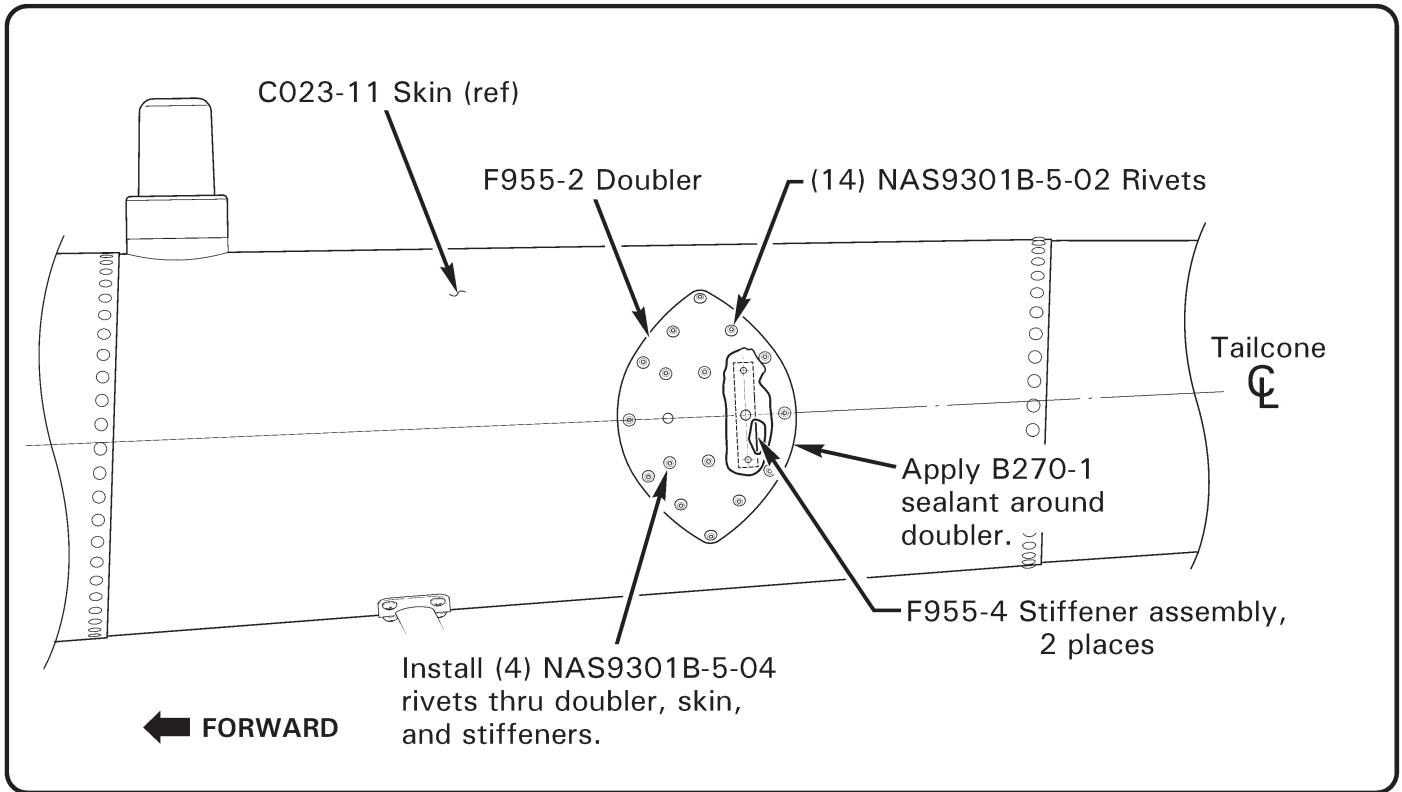
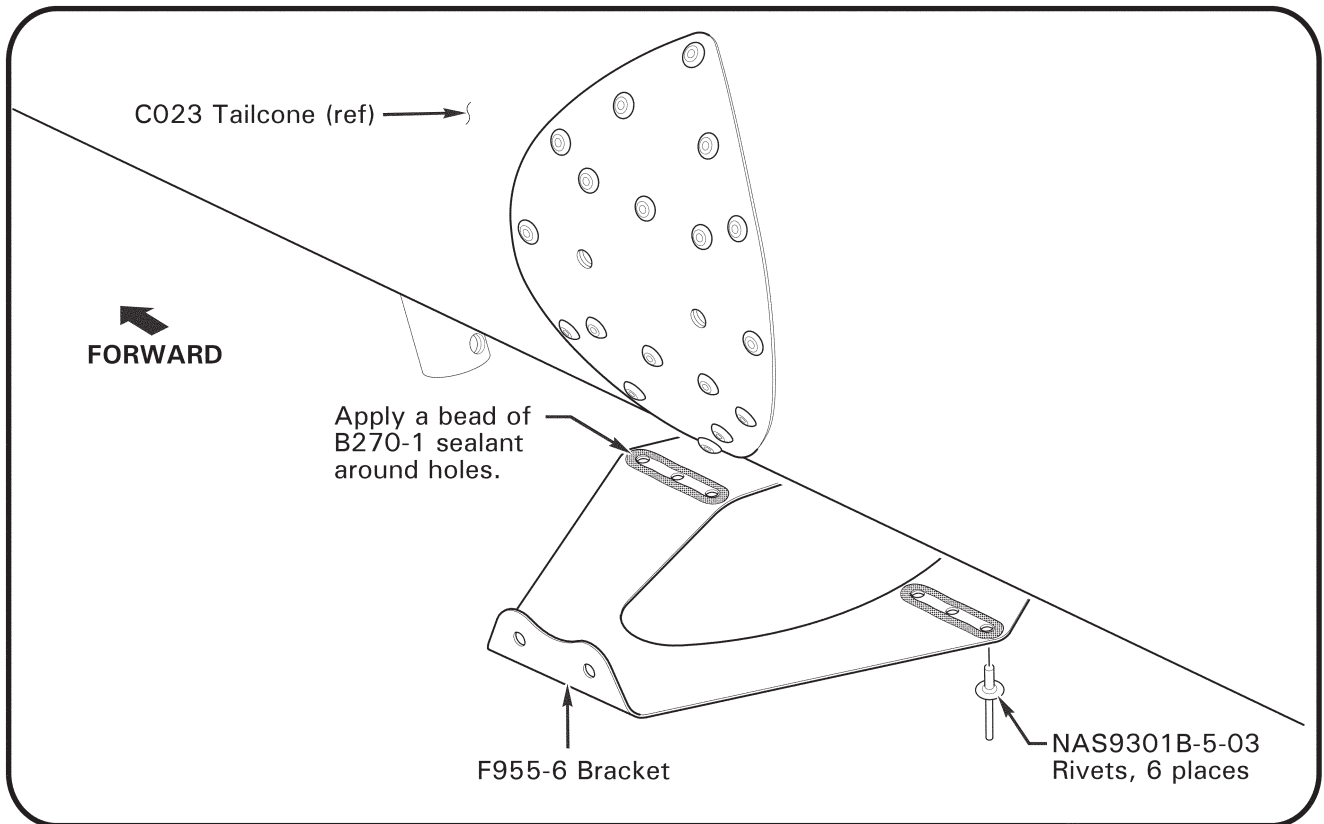

FIGURE 7 Doubler & stiffener assembly installation
FIGURE 10 F955-6 bracket installation
13. Refer to Image 4. Position doubler as marked in step 10 with safety wire threaded thru matching rivet holes of doubler. Align holes of stiffeners, tailcone, and doubler. Install clecos thru holes of doubler that align with lower holes of stiffeners. Temporarily secure doubler and stiffeners to tailcone using (2) NAS6604-3 bolts & (4) NAS1149F0432P washers ([2] washers per bolt); snug bolts hand tight. Remove safety wire. Install clecos in all remaining holes in doubler. Perform steps 12 & 13 on opposite side of tailcone.
14. Refer to Figure 7. Install stiffeners and doubler to tailcone skin using (4) NAS9301B-5-04 rivets thru stiffeners, and (14) NAS9301B-5-02 rivets thru doublers, each side of tailcone as shown, removing clecos one at a time as required. Inspect installed rivets per manufacturers' specifications at: CA-1015.pdf \(cherryaerospace.com\). Remove bolts & washers.
17. Refer to Figures 7 & 10. Apply B270-1 sealant around F955-2 doublers as shown in Figure 7. Apply a small bead of B270-1 sealant around the three rivet holes in F955-6 bracket (two places), as shown in Figure 10.